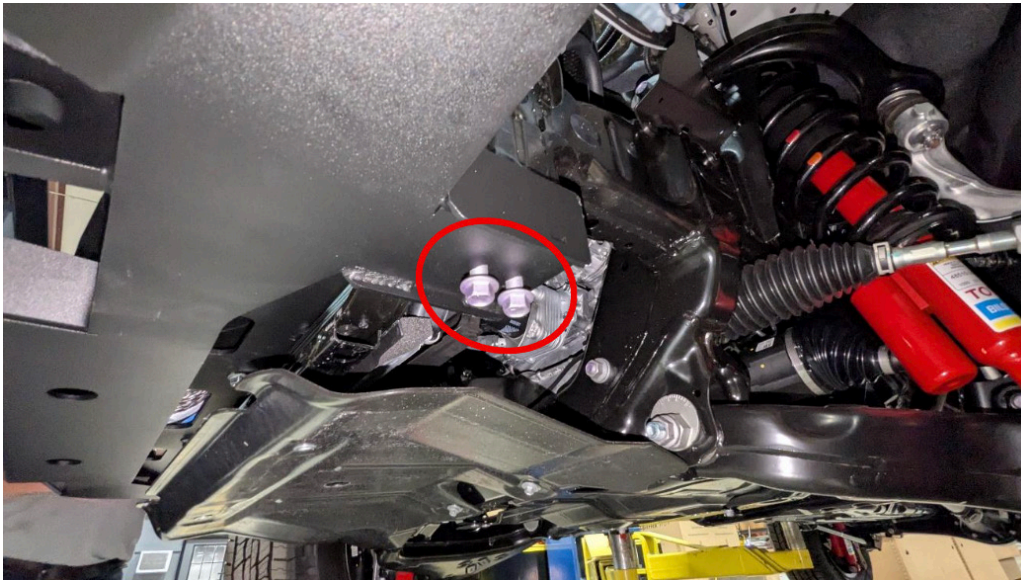

Figure 42
29. Reinstall four (4) of the bolts previously removed from the crash bar earlier into the two (2) holes that the tow hooks were removed from. (Figure 42)